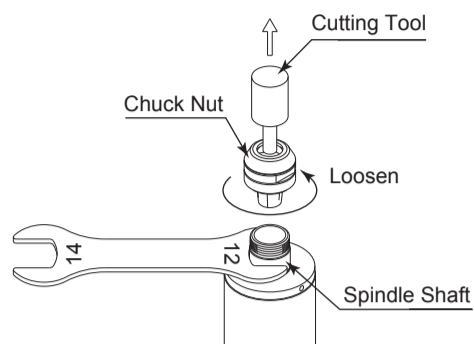

Fig. 4
- Remove the cutting tool according to the section 5 "CHANGING THE CUTTING TOOL" procedure above and remove chuck nut assembly. (Fig. 4).